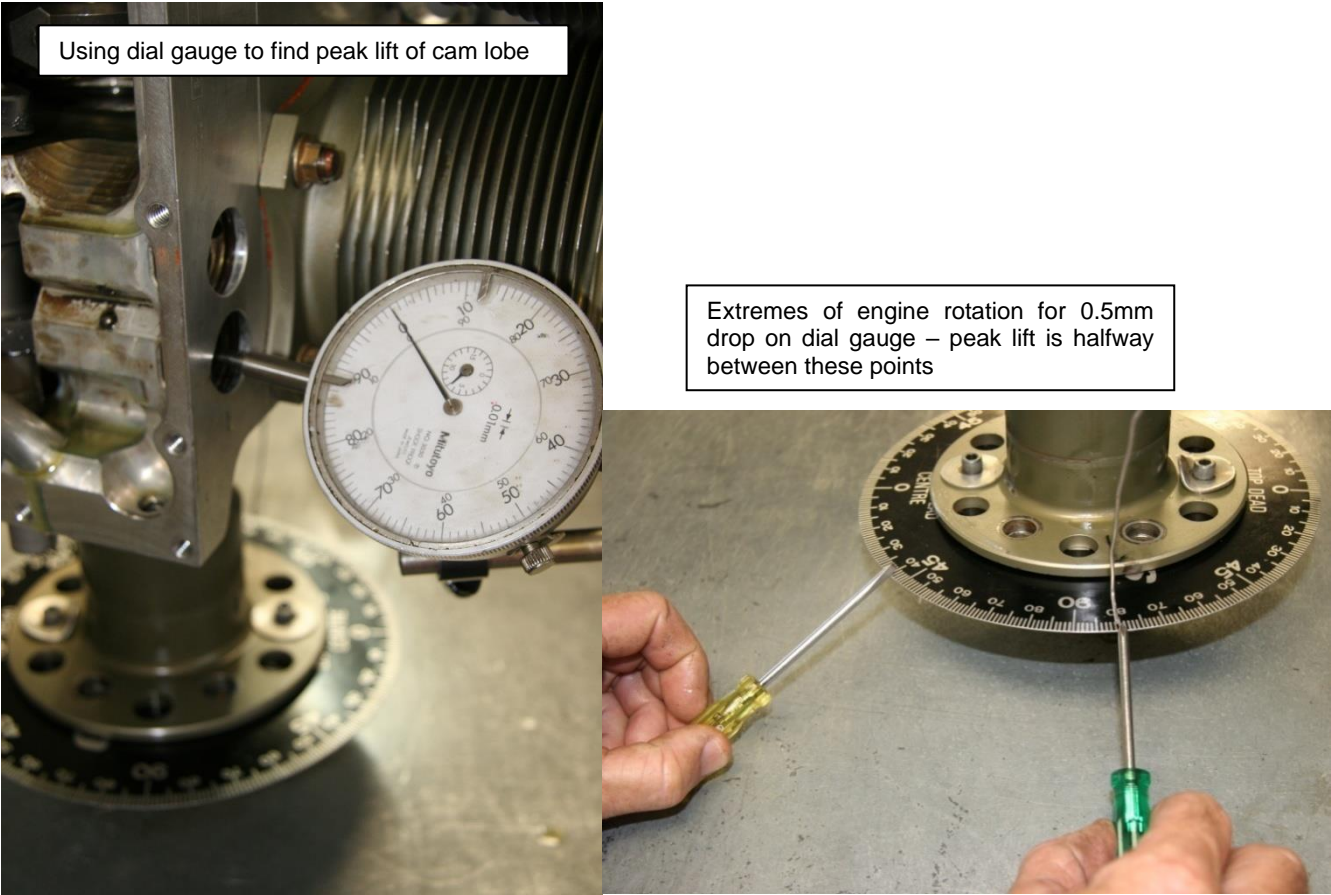

Figure 171 – Checking Cam Timing #1
- For a hydraulic lifter engine – for measurement purposes – fit a hydraulic lifter to the lowermost port of the engine (as shown in Figure 171 – alternatively a special tool such as that shown in Figure 29 can be used).